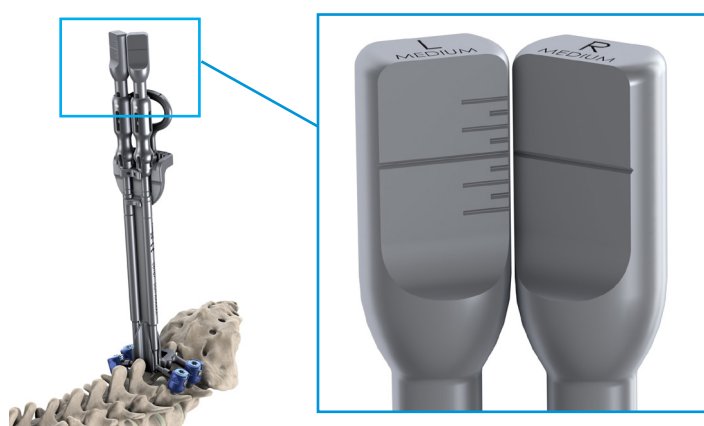

Figure 28: Confirmation of dorsal leveling. Long lines on both Superior Crossbars form a continuous straight line
- vi. To make the dorsal adjustment, remove the Superior Crossbar of the Alignment Gauge of the proud screw. Advance the screw to the measured depth using the Standard Screwdriver. Once this is performed, reposition the Superior Crossbar in the Alignment Gauge, lock the set screw, and verify that all screws are in alignment based on the two long lines (Figure 28).